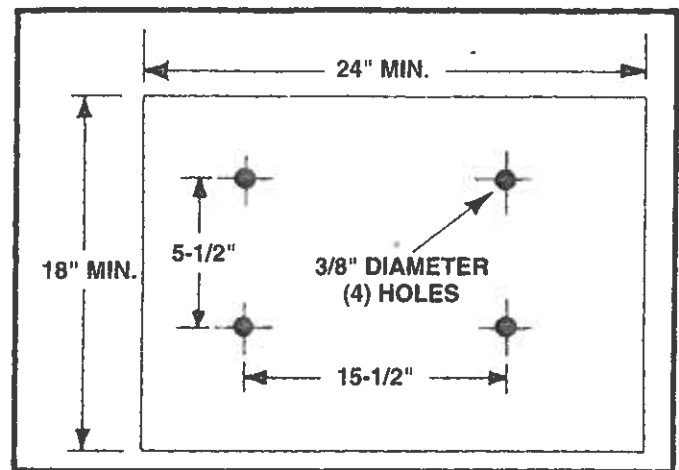

Fig. 17
3. An alternate method of securing the sander to a supporting surface is to fasten the sander base to a mounting board 18" x 24" minimum size. The diagram, shown in Fig. 17, illustrates the size and center to center distance of the holes to be drilled in the mounting board. **NOTE:** For proper stability, the holes in the mounting board must be countersunk at the bottom so screw heads are flush with bottom surface of the mounting board.